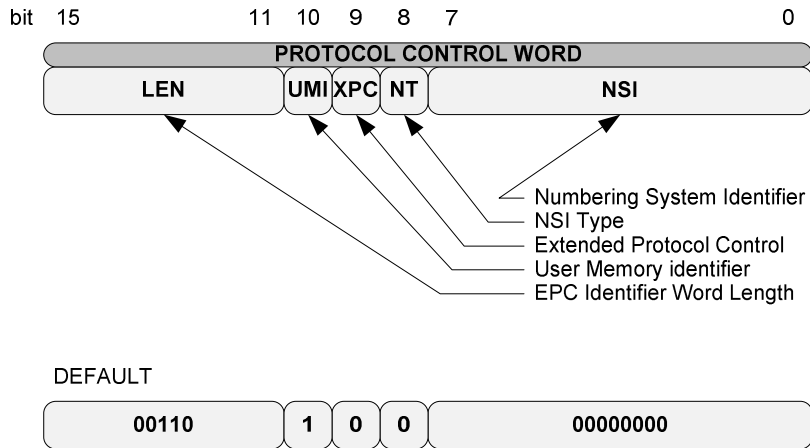

Figure 4. EPC Protocol Control Word
The EPC memory bank accommodates 8 words: 1 protocol control (PC) word, a 6-word (96-bit) memory space for an EPC identifier, and a 1-word CRC. The CRC word is calculated as part of the WM710xx power-on initialization routine and written into the EPC memory bank address 0x00. The PC and 6-word EPC identifier are completely programmable. The Protocol Control field is shown in Figure 4.